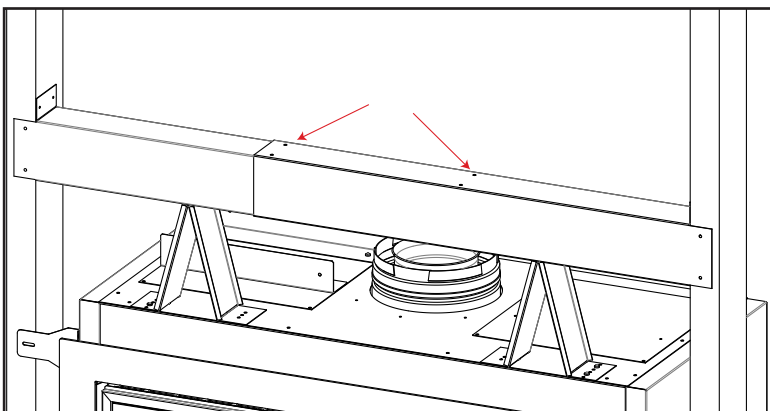

Figure 17: Steel Stud Installation
3. Using the provided sheetmetal screws, attach the two steel stud pieces together using the labeled holes in Figure 17. This should be done on the top and bottom of the steel stud to ensure its rigidity.